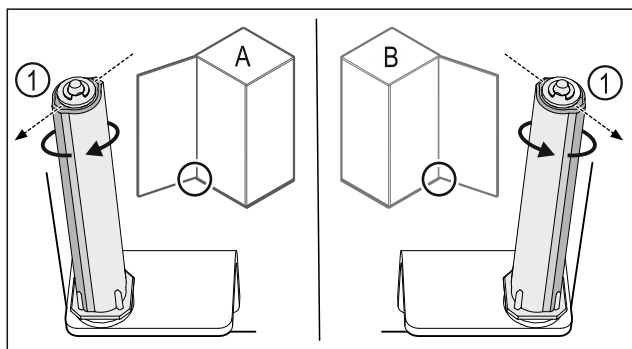

Fig. 61 Left-hinged (A) / Right-hinged (B)
- Turn the closing system against the resistance until the bar of the closing system Fig. 61 (1) points outwards.